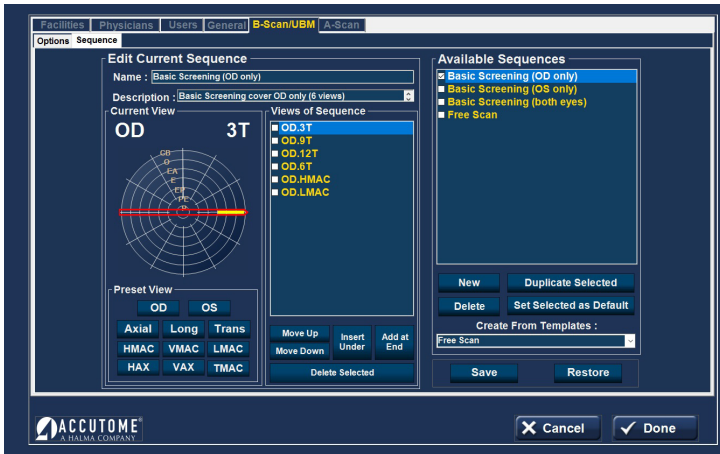

Figure 7.3 - Setup: B-Scan/UBM – Sequence Tab
- Select the first view, or scan, of the new sequence by either clicking in the checkbox (to the left of the view name) or by double-clicking on the scan title (e.g., OD.Scan) in the “Views of Sequence” box as shown in figure 7.3.